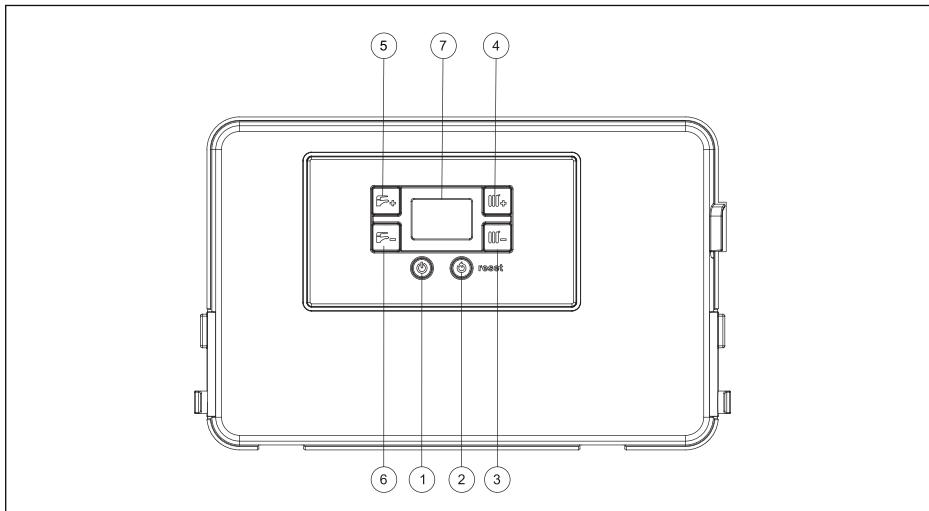

Figure 1. Control panel
Press key (1) (Figure 1) to operate your boiler in “SUMMER” mode and see only the tap symbol () continuously shown on the display. At this mode combi boiler only operates for the domestic hot water (DHW) system. The automatic ignition system lights the burner every time if there is a demand for DHW. The existence of the flame is shown with a flame symbol () on the display. During DHW usage, the tap symbol () on the display blinks.
In order to operate the combi boiler in “WINTER” mode, press key (1) (Figure 1) and see tap symbol () and radiator symbol () continuously shown on the display. At this mode combi boiler operates for the domestic hot (DHW) and heating (CH) systems. The automatic ignition system lights the burner every time there is a demand for both. The existence of the flame is shown with flame symbol () on the display. In this case, the tap symbol () on the display blinks when system operates for DHW and radiator symbol () blinks when system operates for CH.
In order to operate the combi boiler in “ONLY HEATING” mode, press key (1) (Figure 1) and see only radiator symbol () continuously shown on the display. At this mode combi boiler only operates for heating (CH) system. The automatic ignition system lights the burner every time there is a demand for CH system. The existence of the flame is shown with flame symbol () on the display. In this case, radiator symbol () blinks when system operates for CH.
- When electricity is supplied to the appliance, “OFF” word can be seen on the display. Pushing mode button (1) (Figure 1) leads to change the operating mode, every push changes mode sequentially between SUMMER-WINTER-ONLY HEATING-OFF.
- Check that there are no flashing numbers on the display (7) (Figure 1) (also see Section 2.8). If code E04 appears on the display (7) this denotes that there is no water in the boiler. Consequently, fill the system as described in Section 2.6.
The heating temperature is regulated by using keys (3) and (4) (Figure 1).
- Pushing key (3) will decrease the CH set point temperature.
- Pushing key (4) will increase the CH set point temperature.
DHW temperature is regulated by using keys (5) and (6) (Figure 1).
- Pushing key (5) will increase the DHW set point temperature.
- Pushing key (6) will decrease the DHW set point temperature.
This paragraph contains a list of error codes that the boiler may generate on the display (7) (See Figure 1) together with the relative indications and the operations that the user can carry out to reset the boiler.
- Turn off and then turn on the appliance using button (1) (Figure 1) on the control panel. Let the system ignite by itself, if **E01** error remains, retry to turn off and turn on the appliance once again. This action is taken in order to be sure if the gas in the pipes reached to the appliance.